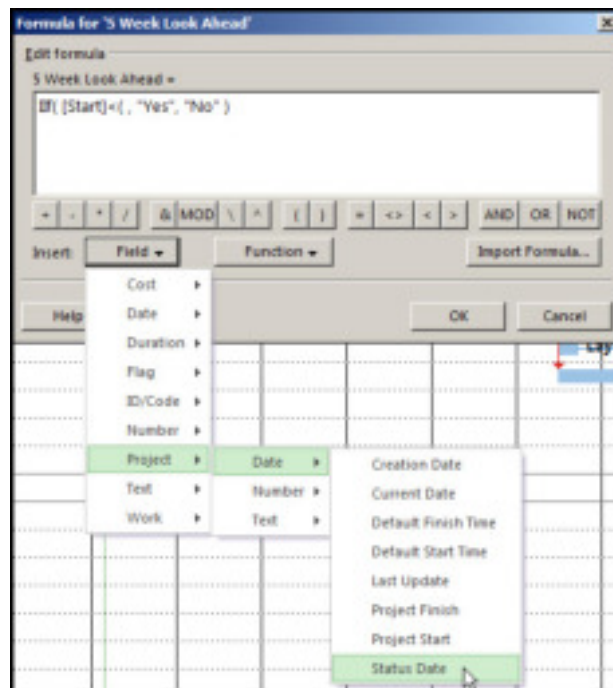

Figure 8
H. Next, we enter "Status Date" into the formula, Figure 8.